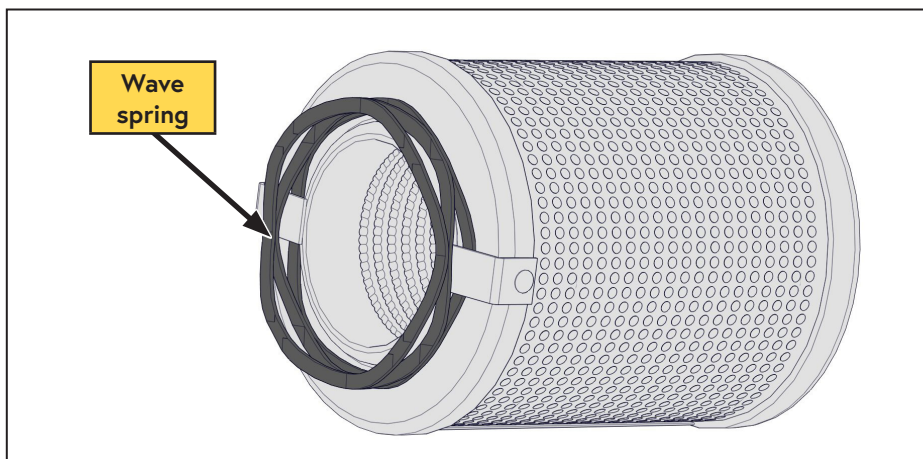

Figure 33 — Install wave spring
- ☐ Install the wave spring onto the coalescing element (Figure 33).